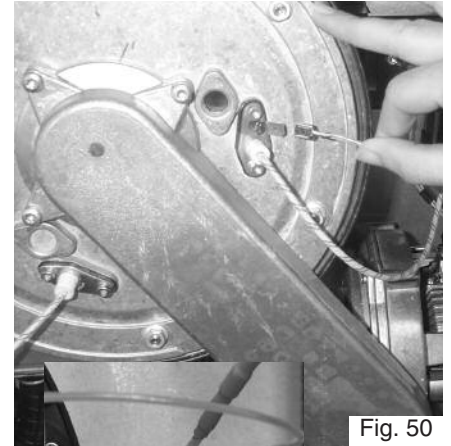
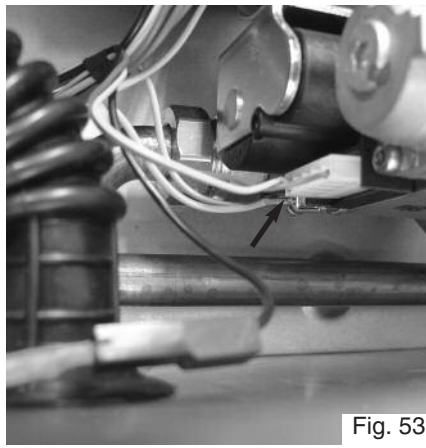

Fig. 50
Fig. 53
3. Disconnect the detection electrode cable (Fig. 53);
4. Remove the earth cable from the ignition electrode (Fig. 50), and remove the ignition electrode cable from the ignitor (Fig. 53)